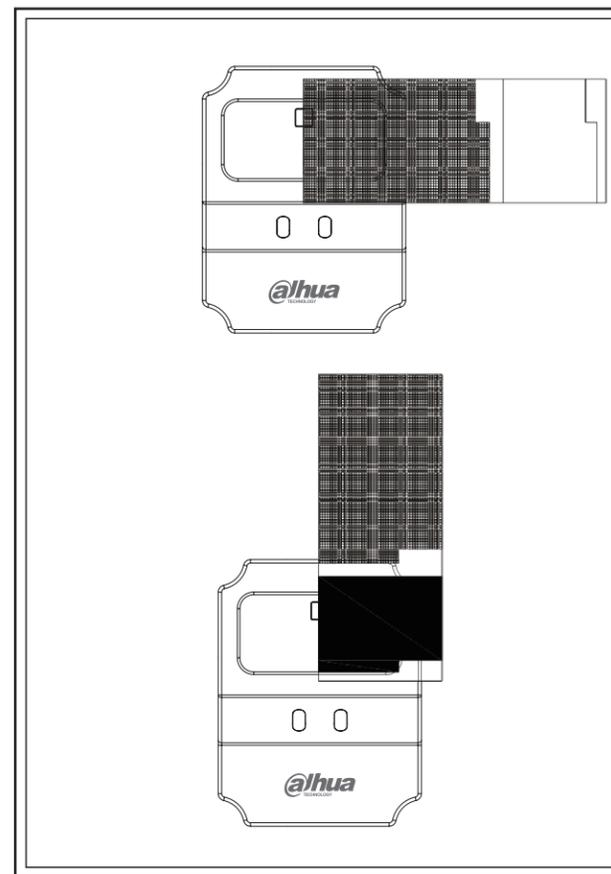

Figure 6
1)When beam detector is in normal inspection state, use the fire alarm testing area of the test board to block the beam detector's transmission or reception window (as shown in **Figure 6**), beam detector should sound an alarm within 30 seconds. The red alarm light remains on after the beam detector alarm, simultaneously issue alarm messages. Remove the sunshade, reset beam detector on the controller, the beam detector indicator light should enter the normal inspection state.
2)When beam detector is in normal inspection state, use the fault testing area of the test board to block the beam detector's transmission or reception window (as shown in **Figure 6**), the beam detector should send out a fault message within 30 seconds and the yellow fault light should remain on. Remove the sunshade, reset beam detector on the controller, the beam detector indicator light should enter the normal inspection state.